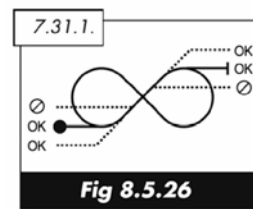

Fig 8.5.26
- For Power Competition: Entry and exit altitudes and the top and bottom of the 3/4 loops must all coincide, except if there are multiple rolls on the first and/or last 45° lines, these lines may be extended but not shortened ("OK" dotted lines in Figure 8.5.26)